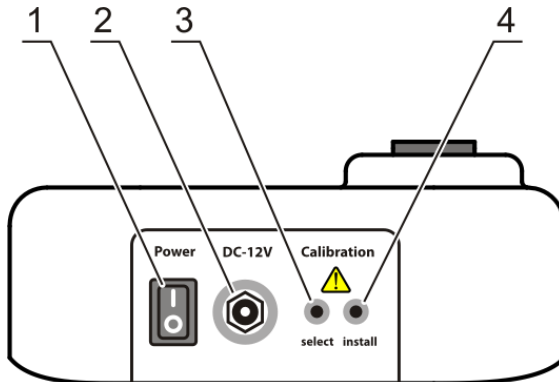

Figure 3. Back view
- Connect the external power supply unit into the socket at the rear side of the unit (fig. 3/2) and position the unit for an easy access to the external power supply and the power switch.
5.2 Connect the external power supply to electric circuit. Switch on the unit using the **Power** switch (fig. 3/1) on the rear panel.
- 6.4 Connect the external power supply to electric circuit. Switch on the unit using the **Power** switch (fig. 3/1) on the rear panel.
- 6.5 Press the **Select** button (fig. 3/3) on the rear of the unit.
6.6.1 **Empty socket.** Display shows  $-. -$  indication. Press **Install** button (fig. 3/4) to save empty socket value. Display shows next required calibration value.